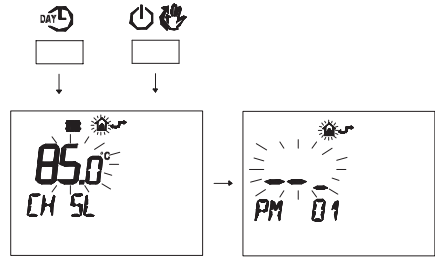

Fig. 7.33
- Press buttons **DAY** and **ON/OFF** at the same time to enter transparent programming (Fig. 7.33).